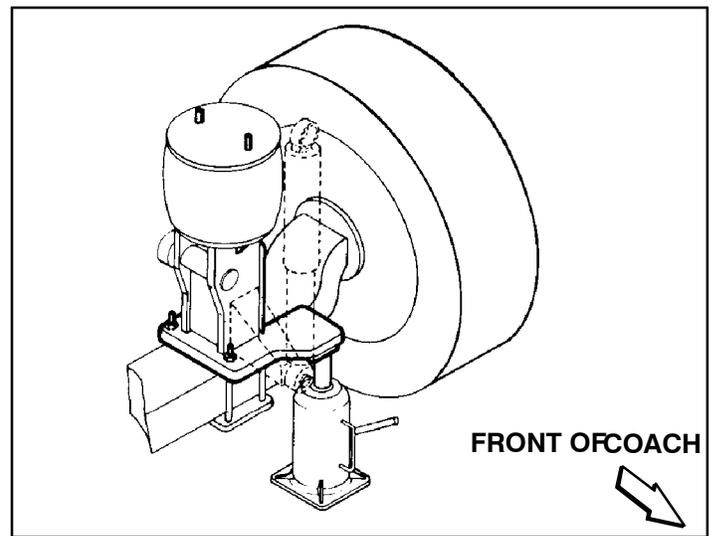

FIGURE 72. Front axle jacking points
3. Place the jack under the front jack pad and raise the coach (Figure 72).